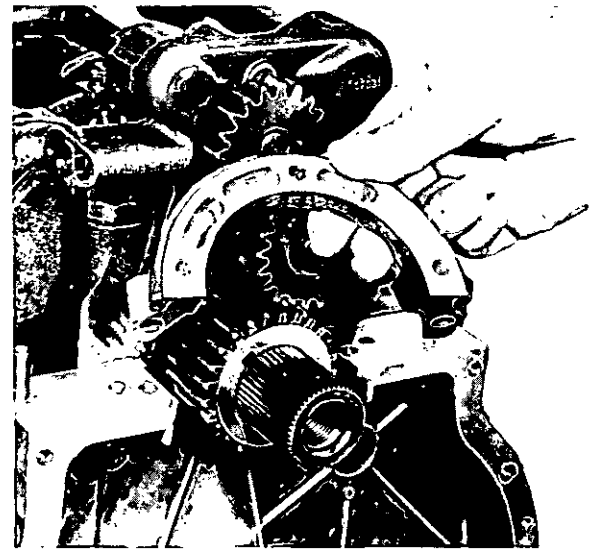

Fig. G.9
4. Remove timing case bottom cover (Fig. G.9).